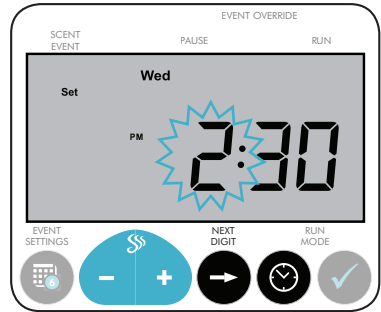

Fig. 13: This is the screen shown for editing the time.
1. Press and hold the CLOCK button for two (2) seconds. The hour digit slot will flash. **(Fig. 13)**